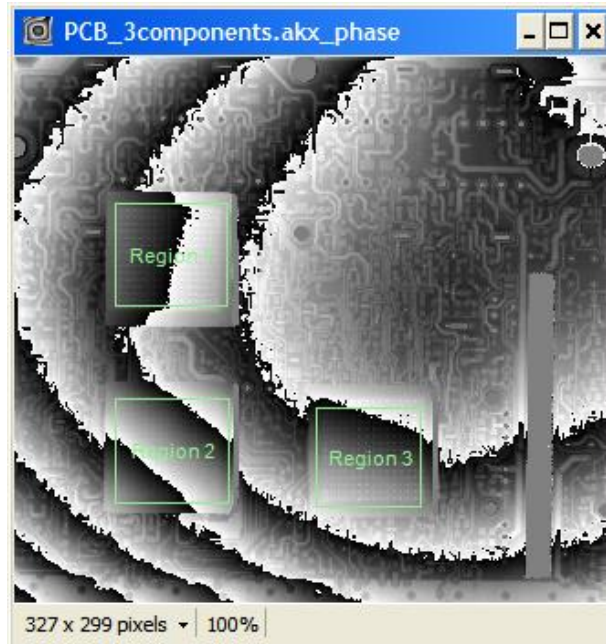

Figure 3.20 Multiple Domains on One Phase Image
5. Additional domains can be added to the partition (**Figure 3.20**) by repeating steps 1 through 3. Domains may overlap.